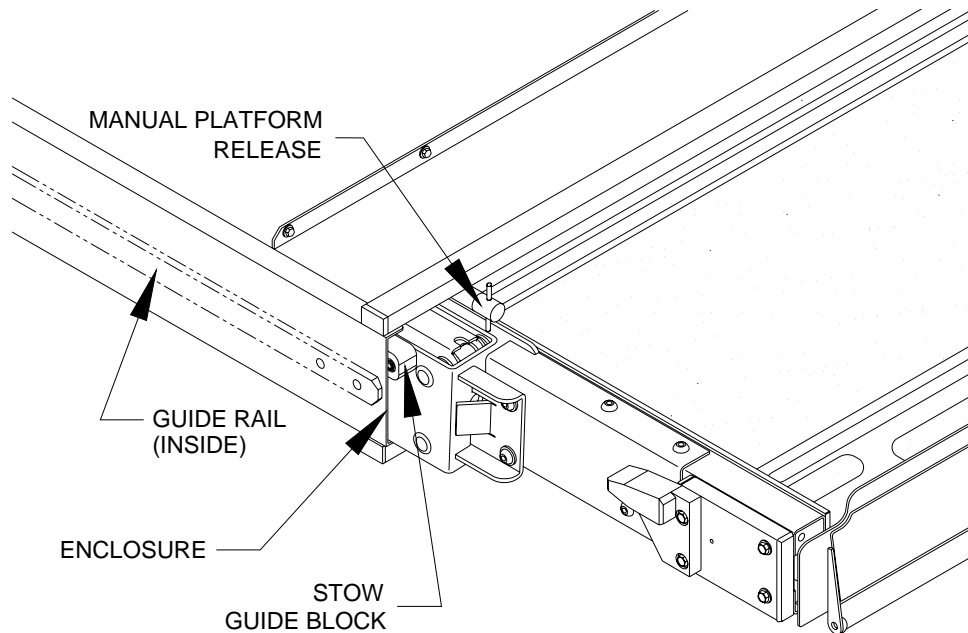

FIGURE 2-4: STOW GUIDE BLOCK ALIGNMENT
- 3) Refer to **Figure 2-4**. Release manual platform lock, and then hand-push platform into enclosure. Stop pushing when front face of white stow guide block (tear-drop shaped plastic block) is adjacent to front edge of enclosure. The stow guide block will be visible from front of lift.